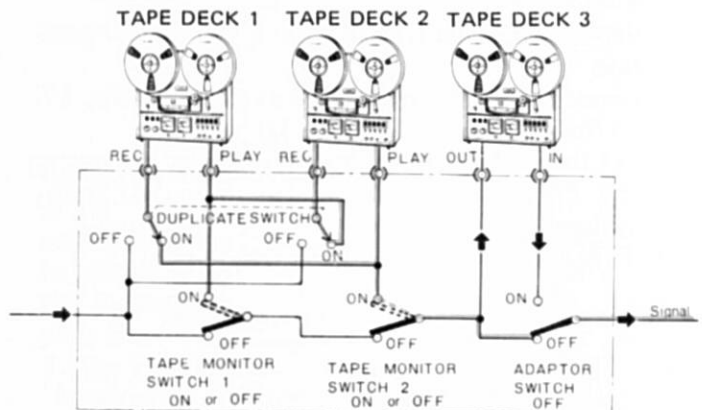

Fig. 16
1. Connect the two tape decks as shown in Fig. 16.
4. When recording with tape deck 1, TAPE MONITOR switch 1 should be switched ON to monitor the sound being recorded, and when recording with deck 2, TAPE MONITOR switch 2 should be switched ON for monitoring (refer again to Fig. 16).